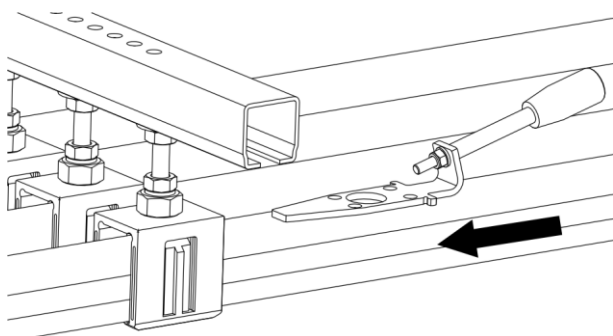

Fig. 62: Slide Tool 1 between the conductor rail and the hanger clamp
- Slide Tool 1 up to the stopper between the conductor rail and hanger clamp (see Fig. 62).